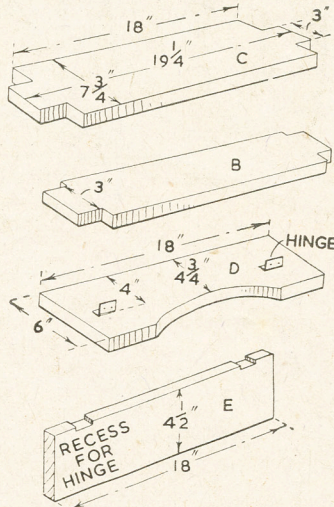

Fig. 4—Parts of the falling front portion
prepared, and this piece, with the other cross rails, is shown in Fig. 4. Note the simple shaping to the lower edge of this rail. In getting the correct position for placing the hinges hold the prepared and finished rail (D) in its ultimate position with its top edge level with rail (E).
Mark in pencil where the underside of rail or floor (C) comes at the back of rail (D) and then fix on the hinges as shown at (D) in Fig. 4. The front may